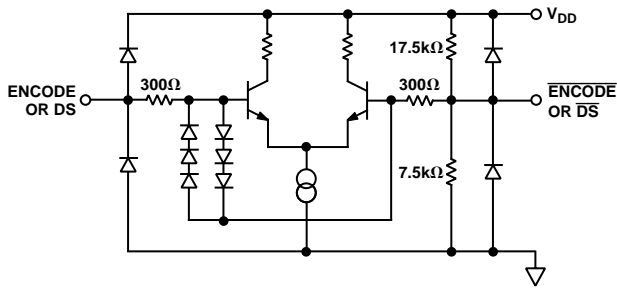

Figure 5. Equivalent ENCODE and Data Select Input Circuit
3tv and tpD are measured from the threshold crossing of the ENCODE input to valid TTL levels of the digital outputs. The output ac load during test is 5 pF (Refer to equivalent circuits Figures 5 and 6).
ENCODE and Data Select (DS) can be driven differentially or single-ended. For single-ended operation, the complement inputs (ENCODE, DS) are internally biased to  $V_{\text{DD}}/3$  (~1.5 V) by a high impedance on-chip resistor divider (Figure 5), but they may be externally driven to establish an alternate threshold if desired. A 0.1  $\mu\text{F}$  decoupling capacitor to ground is sufficient to maintain a threshold appropriate for TTL or CMOS logic.
Note the 6-diode clock input protection circuitry in Figure 5. This limits the differential input voltage to  $\sim \pm 2.1$  V. When the diodes turn on, current is limited by the  $300 \Omega$  series resistor. Exceeding 2.1 V across the differential inputs will have no impact on the performance of the converter, but be aware of the clock signal distortion that may be produced by the nonlinear impedance at the converter.